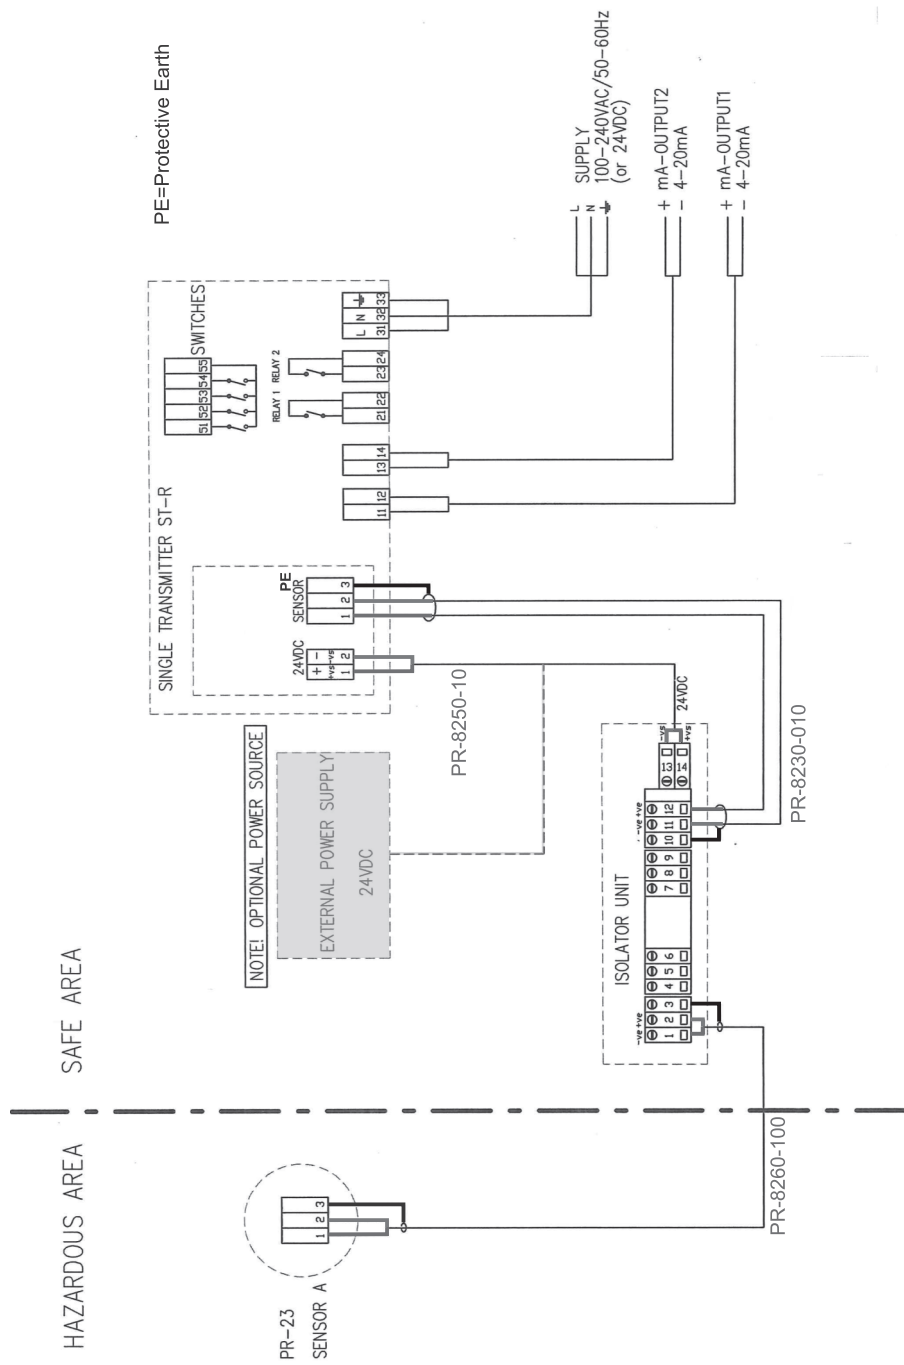
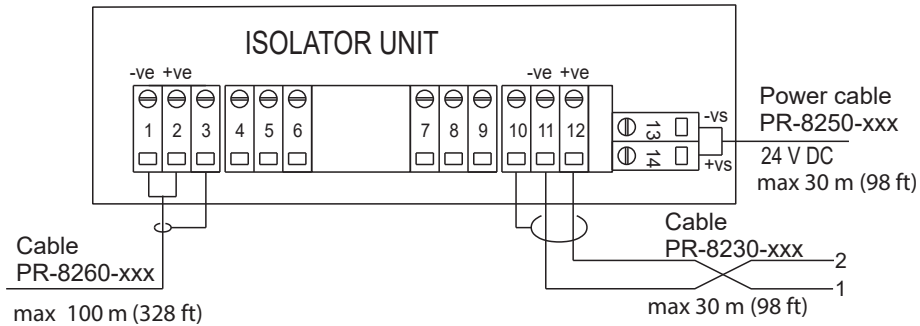

Figure 87 Intrinsically safe wiring, PR-23-...-IA/-CI/-JI/-RI according to WRG-362
Figure 89 Isolator unit wiring
- The intrinsically safe cable between isolator unit and sensor, part RP-8260-xxx, where xxx is the cable length in meters. The maximum length is 100 m (328 ft). For cable connections, see Figure 87 \(page 169\) and Figure 89 \(page 172\).